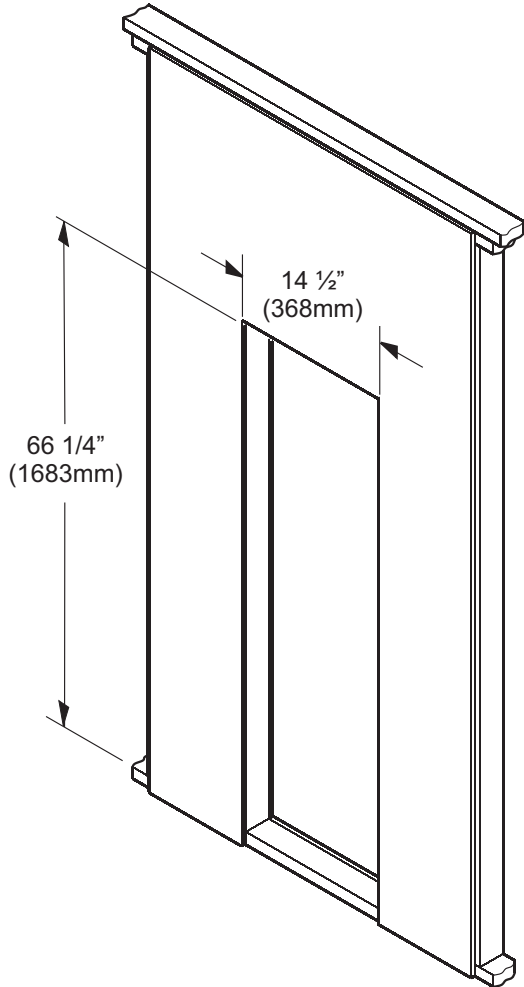
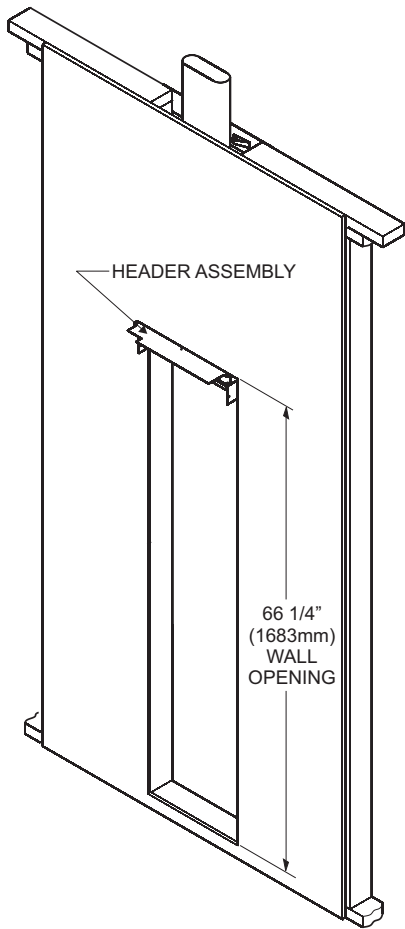

Figure 14
Figure 19
1. Provide an opening in the wall 14 1/2" (368 mm) wide and 66 1/4" (1683 mm) high measured from top of floor plate (See Figure 14 and Figure 19). Wall depth is to be 2" x 4" framing with 1/4" (6.5 mm) to 5/8" (16 mm) sheeting.